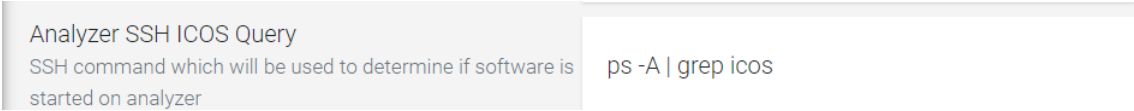

Figure 96 Analyzer SSH ICOS Query
- 1 To allow the MobileGuard™ application to acknowledge whether the analyzer software is actively running: Type **ps -A | grep icos** in the *Analyzer SSH ICOS Query* field (see Figure 96), then click **Save**.